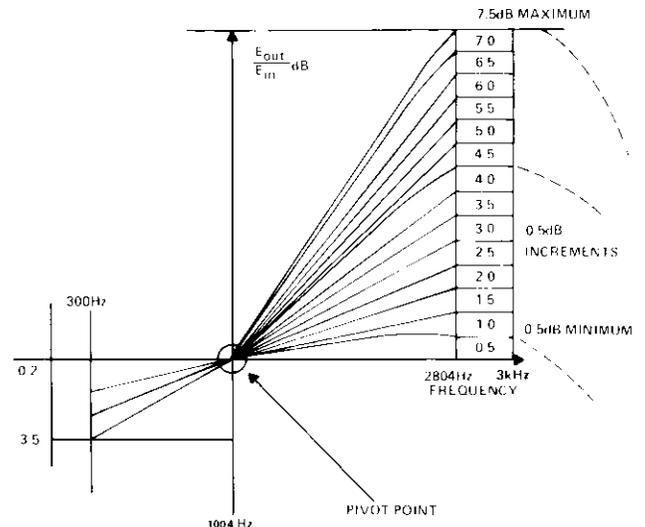

figure 6. Typical response curves for receive-channel active slope equalization
2.07 A prescription active slope-type amplitude equalizer in the 6047 and 6047A provides post-equalization of the facility-side receive pair. From 0 to 7.5dB of gain at 2804Hz (re 1004Hz) can be introduced into either module's receive path in switch-selectable 0.5dB increments to compensate for the frequency response of nonloaded cable. Typical flatness achievable with the module's receive equalizer is $\pm 0.3\text{dB}$ from 400 to 3200Hz re 1004Hz. The module's equalized gain response is not affected by flat gain and loss adjustments, which are used to provide precise transmission alignment. Frequency response of the equalizer is shown graphically in figure 6 and in tabular form in table 1.